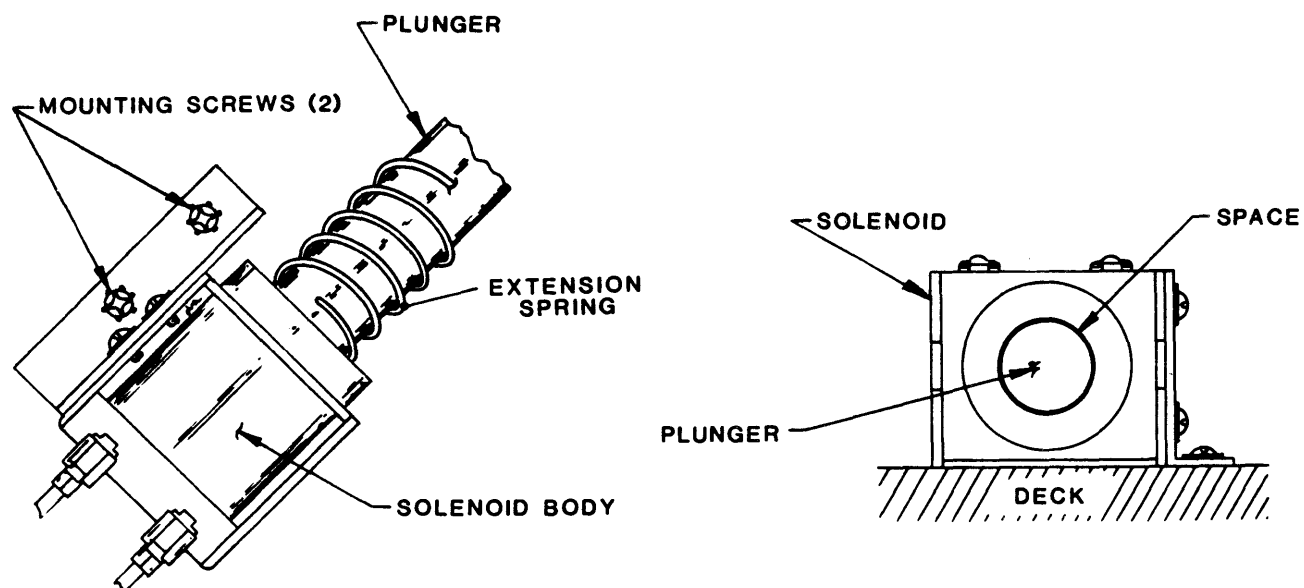

Figure 4-5 Hub Lock Solenoid
4.3.3 HUB LOCK SOLENOID (Fig. 4-5)